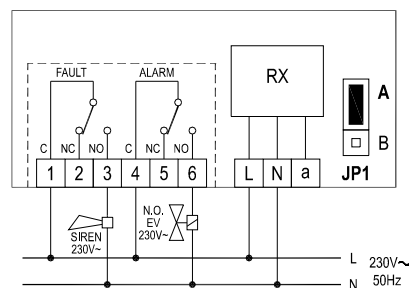
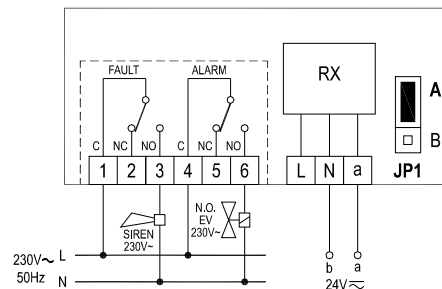
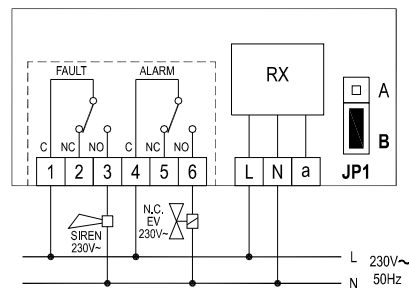

Fig. 9
Fig. 10
Fig. 11
- 7 Make electrical connections according to the wiring diagram in Fig. 9, 10, 11 or 12 and the paragraph "Electrical Connections".
The device can be powered at 230V~ or 24V~. Terminals **L** and **N** supply the receiver at 230V~ and must be connected to mains with neutral to terminal **N**. Alternatively connect the power supply to terminals **a** and **N** to power the device at 24V~. Terminals 1, 2 and 3 are the voltage free SPDT relay contacts of the Fault output (FAULT). Terminals 4, 5 and 6 are the voltage free SPDT relay contacts of the Alarm output (ALARM). Figures 9 and 10 shows how to connect a normally open electrovalve (N.O.) that will be powered when the "alarm" output is activated, i.e. when the transmitter sends the "alarm"
Figures 11 and 12 shows how to connect a normally closed electrovalve (N.C.) that, in absence of alarm condition from the detector transmitter, will be always powered. The N.O. "alarm" relay contact is used and set with reverse logic (**JP1** jumper on position **B**). When the transmitter sends the "alarm" command to the receiver, the "alarm" output will cut the power supply to the electrovalve. In each example of figures 9, 10, 11 and 12 show how to connect an audible warning device to the "fault" output (Fault). The outputs, terminals 1 to 6, are voltage free and insulated with reinforced insulation towards the other circuits of the receiver. Therefore, a receiver can be supplied with SELV low voltage (24V~), while controlling a high voltage load (230V~), as shown in Fig. 10 or 12.